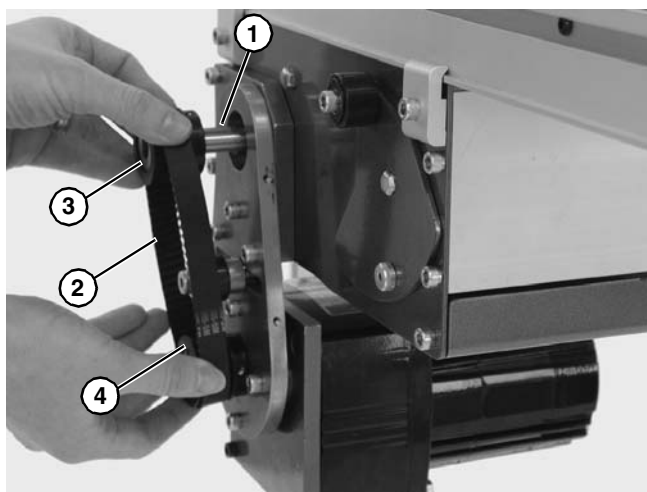

Figure 7
- Install key (**Figure 7, item 1**).
- Wrap timing belt (**Figure 7, item 2**) around driven pulley (**Figure 7, item 3**) and drive pulley (**Figure 7, item 4**). Install driven pulley (M) onto conveyor shaft.